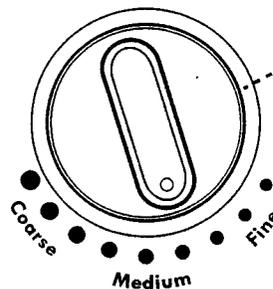

Fig. 3a
5. Turn the Grind Selector Knob to choose the size of the coffee grounds, coarse, medium or fine (see Fig. 3a).